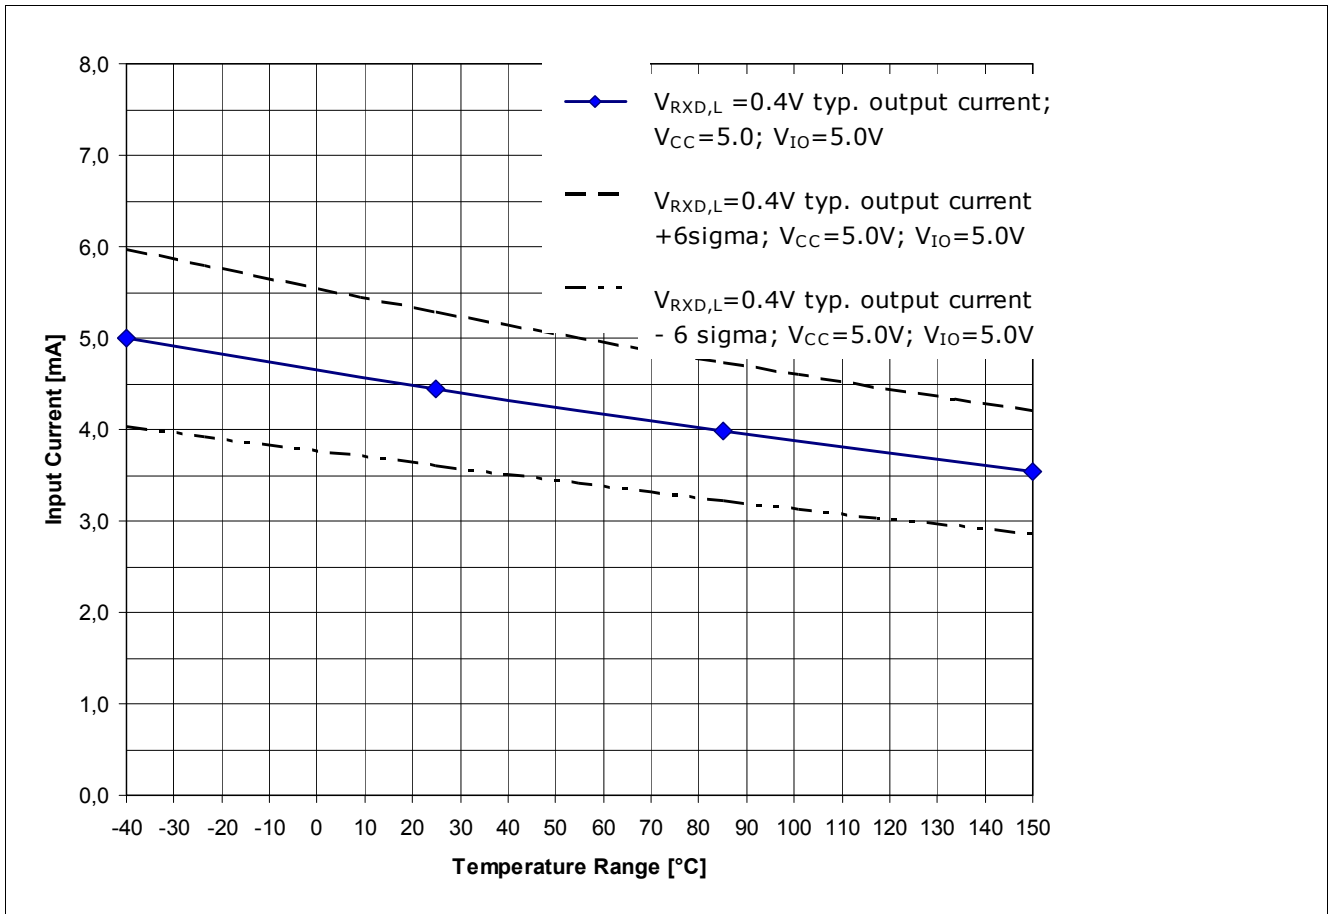
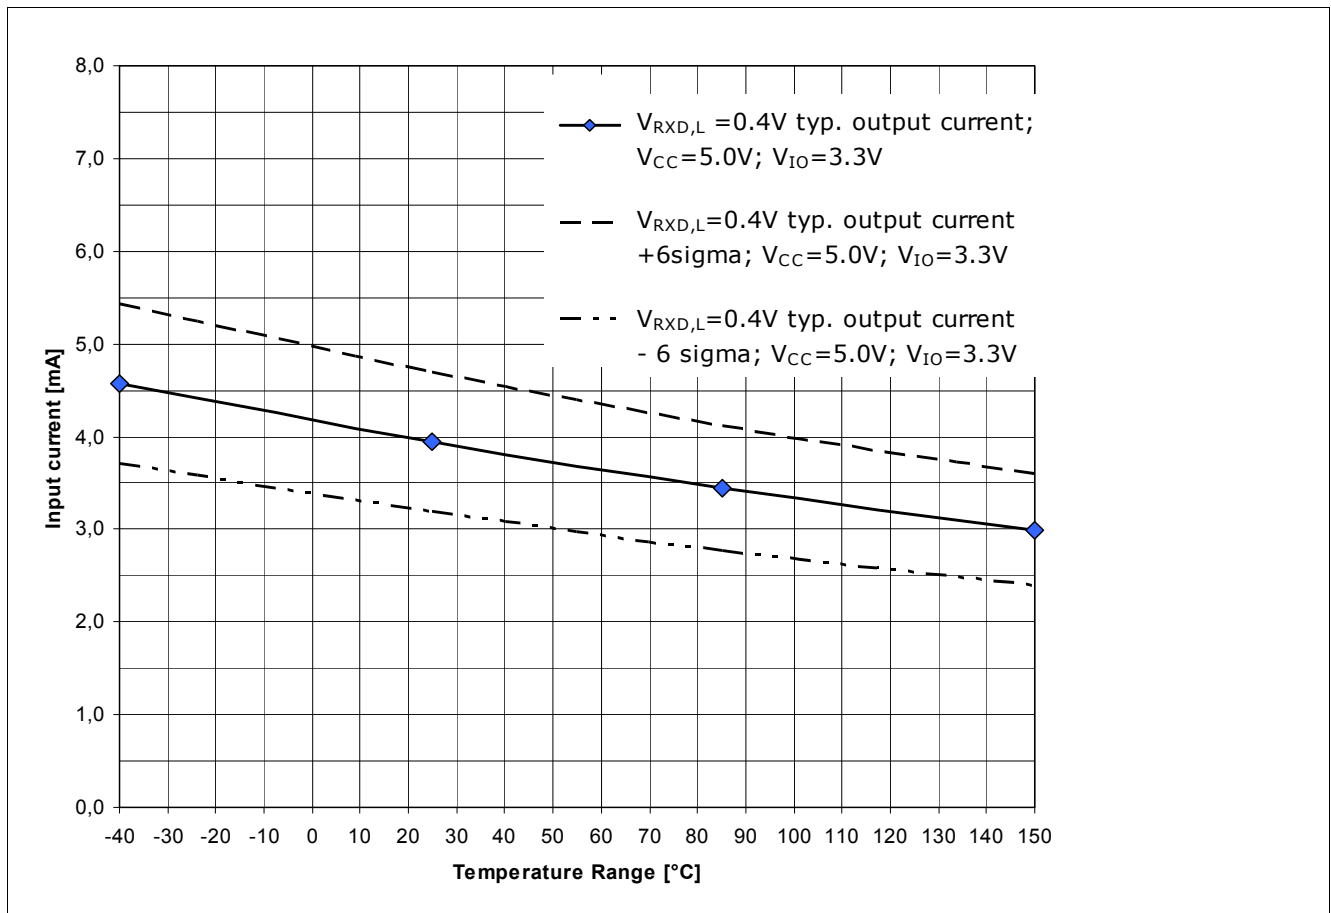

Figure 13 RxD Output driver capability for a logical “Low” signal ($V_{RxD,H}=0.4\text{ V}$, $V_{CC}=5.0\text{ V}$, $V_{IO}=5.0\text{ V}$ ¹⁾)
Figure 14 RxD Output driver capability for a logical “Low” signal ($V_{RxD,H}=0.4\text{ V}$, $V_{CC}=5.0\text{ V}$, $V_{IO}=3.3\text{ V}^1$)
The diagram in Figure 13 and the diagram in Figure 14 show the input current capability of the RxD output pin depended on the chip temperature T_J . Figure 13 shows the input current capability of the RxD output pin at a V_{IO} power supply of 5.0 V and Figure 14 shows the input current capability of the RxD output pin at a V_{IO} power supply of 3.3 V.
- The curve “ **$V_{RxD,H} = 0.4$ V; typical input current; $V_{CC} = 5.0$ V; $V_{IO} = 5.0$ V;**” displays the typical input current at the RxD output pin of the TLE8250GVIO (see Figure 13).
- The curve “ $V_{\text{RxD,H}} = 0.4 \text{ V}$; **typical input current + 6 sigma**; $V_{\text{CC}} = 5.0 \text{ V}$; $V_{\text{IO}} = 5.0 \text{ V}$,” displays the expected maximum value of the input current at the RxD output pin (see Figure 13).
- The curve “ $V_{\text{RxD,H}} = 0.4 \text{ V}$; **typical input current - 6 sigma**; $V_{\text{CC}} = 5.0 \text{ V}$; $V_{\text{IO}} = 5.0 \text{ V}$,” displays the expected minimum value of the input current at the RxD output pin (see Figure 13).
- The curve “ $V_{\text{RxD,H}} = 0.4 \text{ V}$; **typical input current**; $V_{\text{CC}} = 5.0 \text{ V}$; $V_{\text{IO}} = 3.3 \text{ V}$,” displays the typical input current at the RxD output pin of the TLE8250GVIO (see Figure 14).
- The curve “ $V_{\text{RxD,H}} = 0.4 \text{ V}$; **typical input current + 6 sigma**; $V_{\text{CC}} = 5.0 \text{ V}$; $V_{\text{IO}} = 3.3 \text{ V}$,” displays the expected maximum value of the input current at the RxD output pin (see Figure 14).
- The curve “ $V_{\text{RxD,H}} = 0.4 \text{ V}$; **typical output current - 6 sigma**; $V_{\text{CC}} = 5.0 \text{ V}$; $V_{\text{IO}} = 3.3 \text{ V}$,” displays the expected minimum value of the output current at the RxD output pin (see Figure 14).